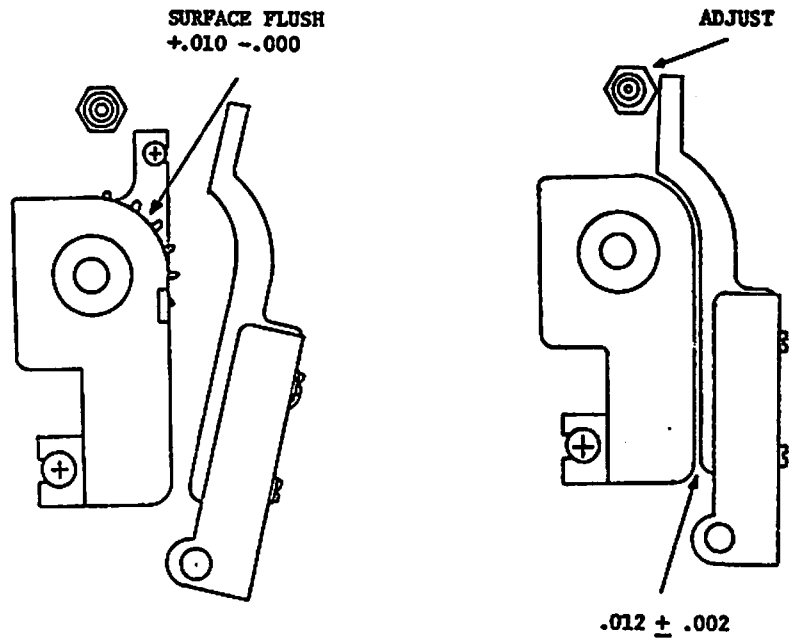

FIGURE 5-22 VERTICAL FORMAT HOUSING ADJUSTMENTS
- 1) The sprocket and housing are separate parts; hence with cover open, loosen the two screws holding the housing (Figure 5-22). Move the housing so that the base of the sprocket is flush with the housing.
- 2) Adjust cover stop eccentric to set a gap of $.012'' \pm .002''$ ($.31 \text{ mm} \pm .06 \text{ mm}$) between the cover and housing (Figure 5-22).